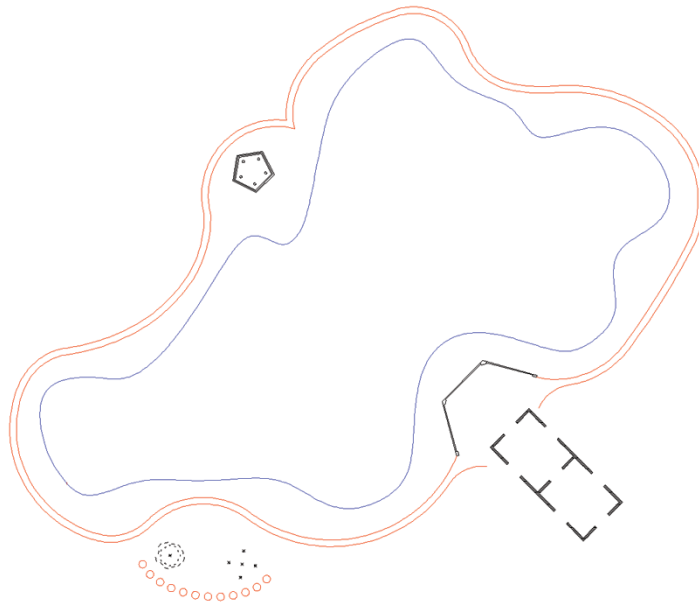

FIGURE 5.15 Pond shown as a spline rather than an image
14. Right-click Pond in the External References palette, and choose Detach Image. Close the External References palette. Select the pond spline, and change its color to Blue in the Properties panel (see Figure 5.15). The pond is now represented by a blue curve rather than a blue image.